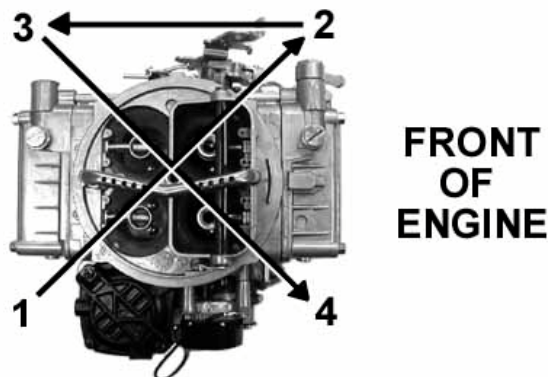

Figure 5
3. Place the carburetor on top of the flange gasket on the manifold. Install the hold down nuts and snug down progressively in a "crisscross" pattern (60-80 in./lbs.), as shown in Figure 5.